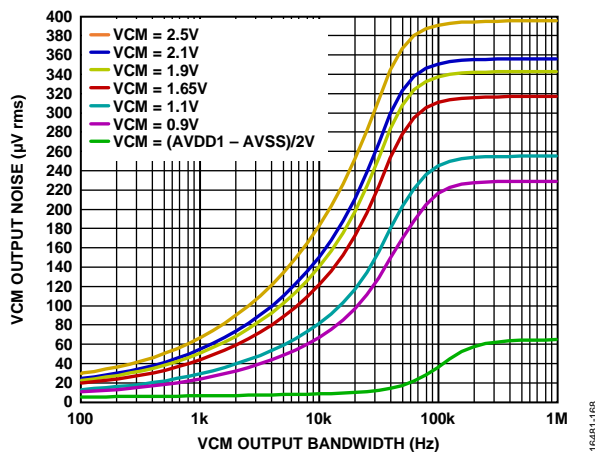

Figure 64. VCM Output Noise vs. VCM Output Bandwidth
Figure 64 is a simulation of the VCM noise for each VCM setting, plotted over a bandwidth of 100 Hz to 1 MHz. An external resistor capacitor (RC) filter is required to set the bandwidth to meet the VCM noise requirement. For example, a VCM output of 2.5 V has 180  $\mu\text{V}$  rms of noise (see Figure 64). If the bandwidth is limited to 1 kHz, this noise can be reduced to approximately 65  $\mu\text{V}$  rms (see Figure 64).